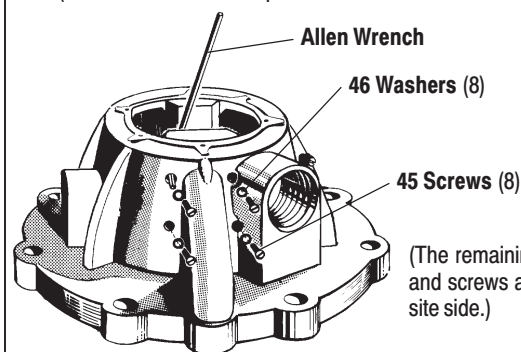
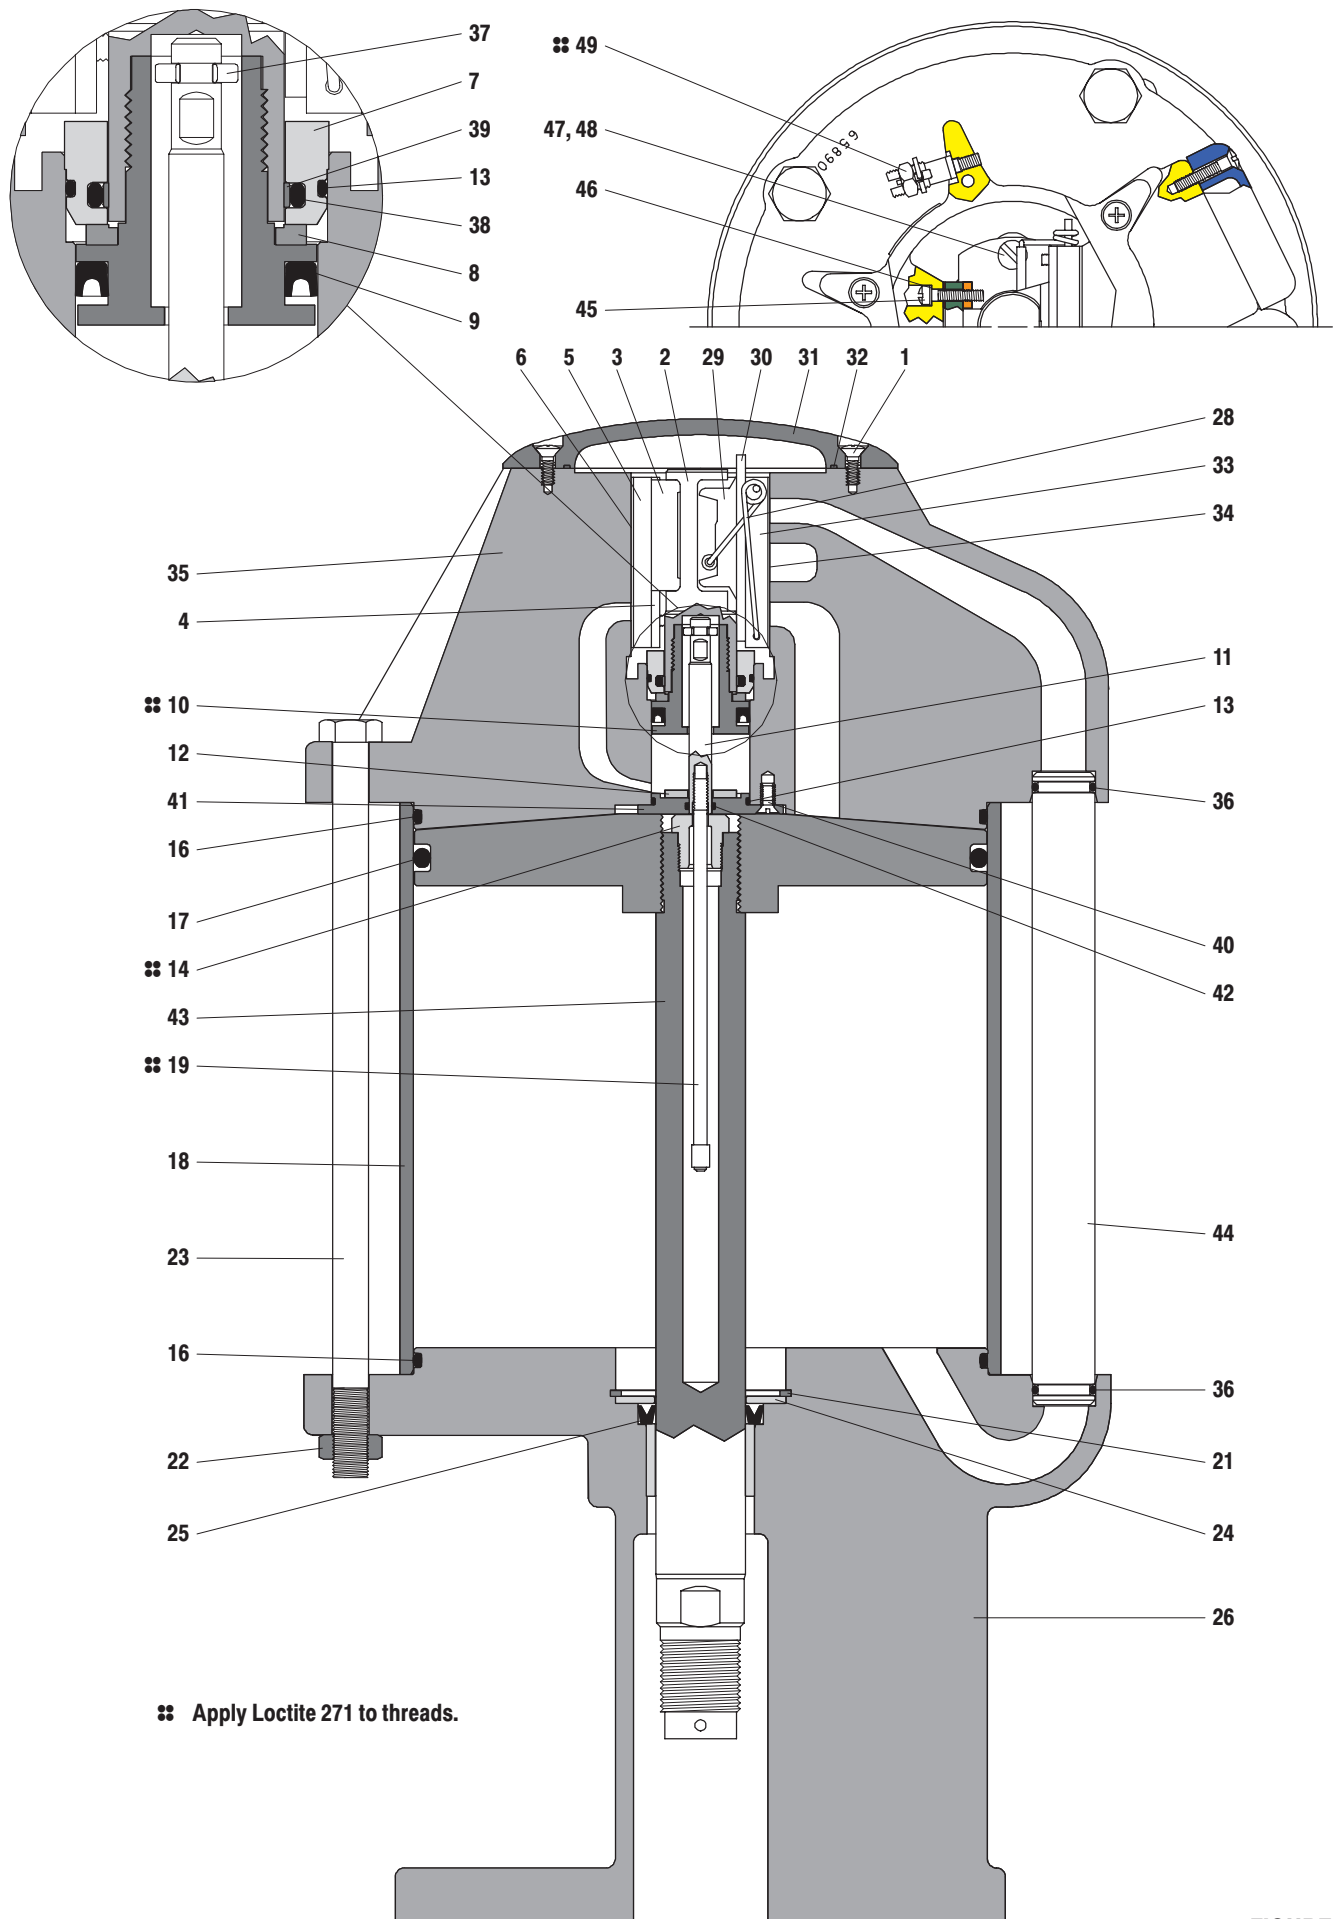

FIGURE 1
FIGURE 4
1. Force the (43) piston assembly up by pushing toward the top of the air motor (see figure 4).
2. Remove the six (1) screws, releasing the (31) cap and (32) gasket.
3. Loosen the eight (45) screws (which hold the (33) valve plate and pin assembly, (30) valve guide, two (4) valve guides and the (5) valve plate) until the (30) valve guide and the two (4) valve guides can be removed by pulling upward (see figures 1 and 2).
4. Remove the eight (45) screws and the eight (46) washers from the 8" air motor by pressure outward with a small allen wrench (see figures 1 and 2).
46. Thoroughly grease and install the (32) gasket in the (31) cap.
47. Place the (31) cap on the (35) head assembly and secure with six (1) screws (see figure 4).